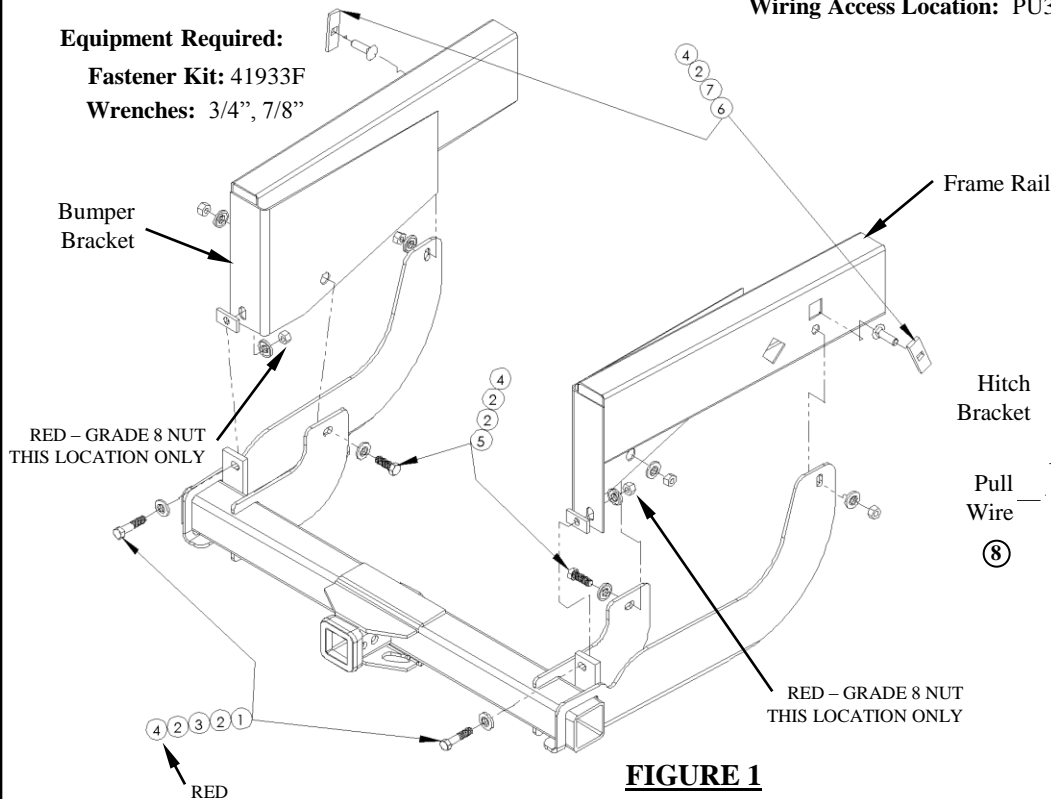

FIGURE 1
①	Qty. (2)	Hex Bolt, 1/2-13 x 2.00" Grade 8	⑤	Qty. (2)	Hex Bolt, 1/2-13 x 1-1/2" Grade 5
②	Qty. (10)	Conical Washer, 1/2"	⑥	Qty. (2)	Carriage Bolt, 1/2-13 x 1-3/4" Grade 5
③	Qty. (2)	Spacer, 1" x 2" x 1/4", Round Hole	⑦	Qty. (2)	Spacer, 1" x 3" x 1/4", Square Hole
④	Qty. (6)	Hex Nut, 1/2" (2 are red -grade 8)	⑧	Qty. (1)	Pull Wire
1. Raise hitch into position as shown in Figure 1. The bumper is not shown for clarity.